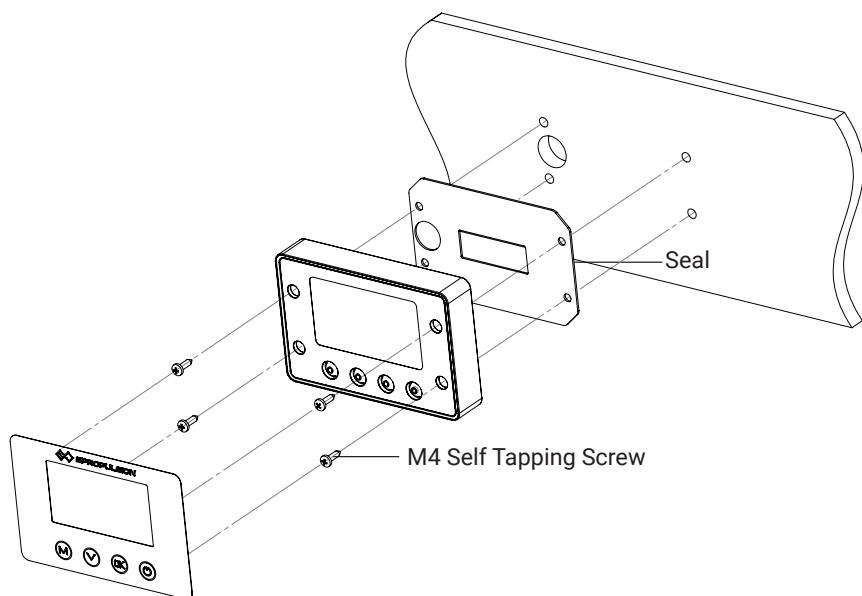

Figure 2-8
- ② Fix the display panel to the boat referring to the figure 2-8.